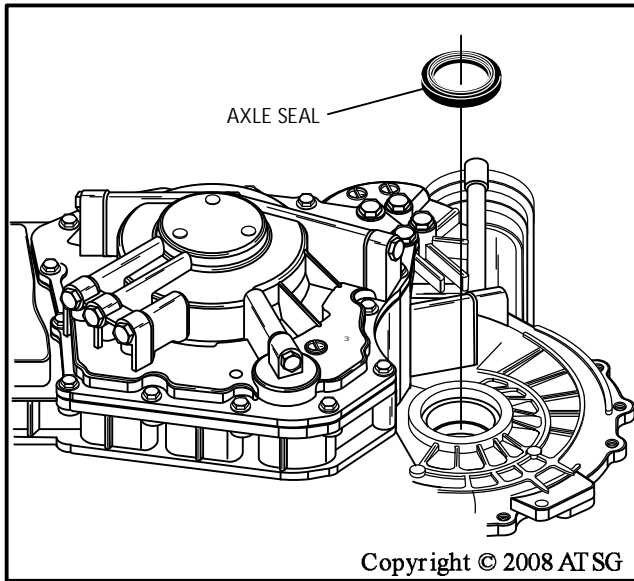

Figure 213
54. Install the case half axle seal at this time, as shown in Figure 213, using the proper driver.